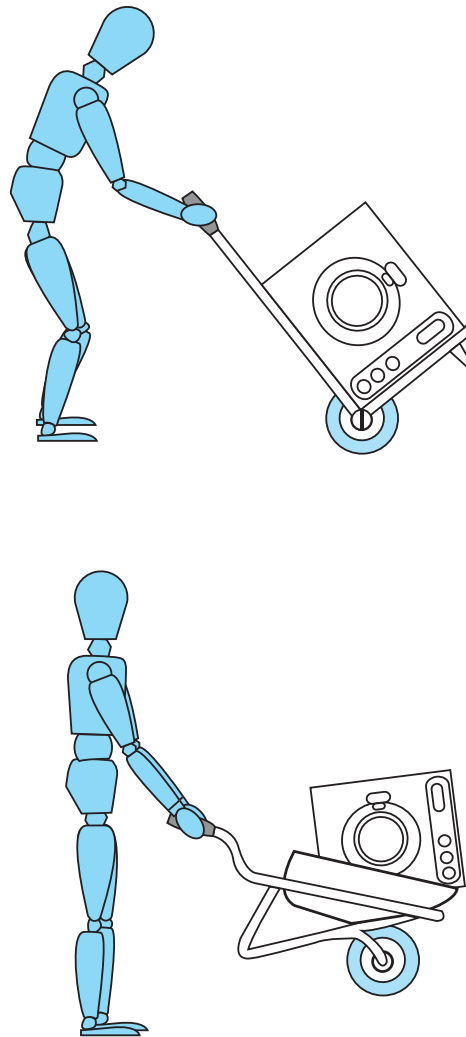

Figure 3.4 Always use a mechanical aid to transport a heavy load when available.
- Always use a trolley, wheelbarrow or truck such as that shown in Fig. 3.4 when these are available.